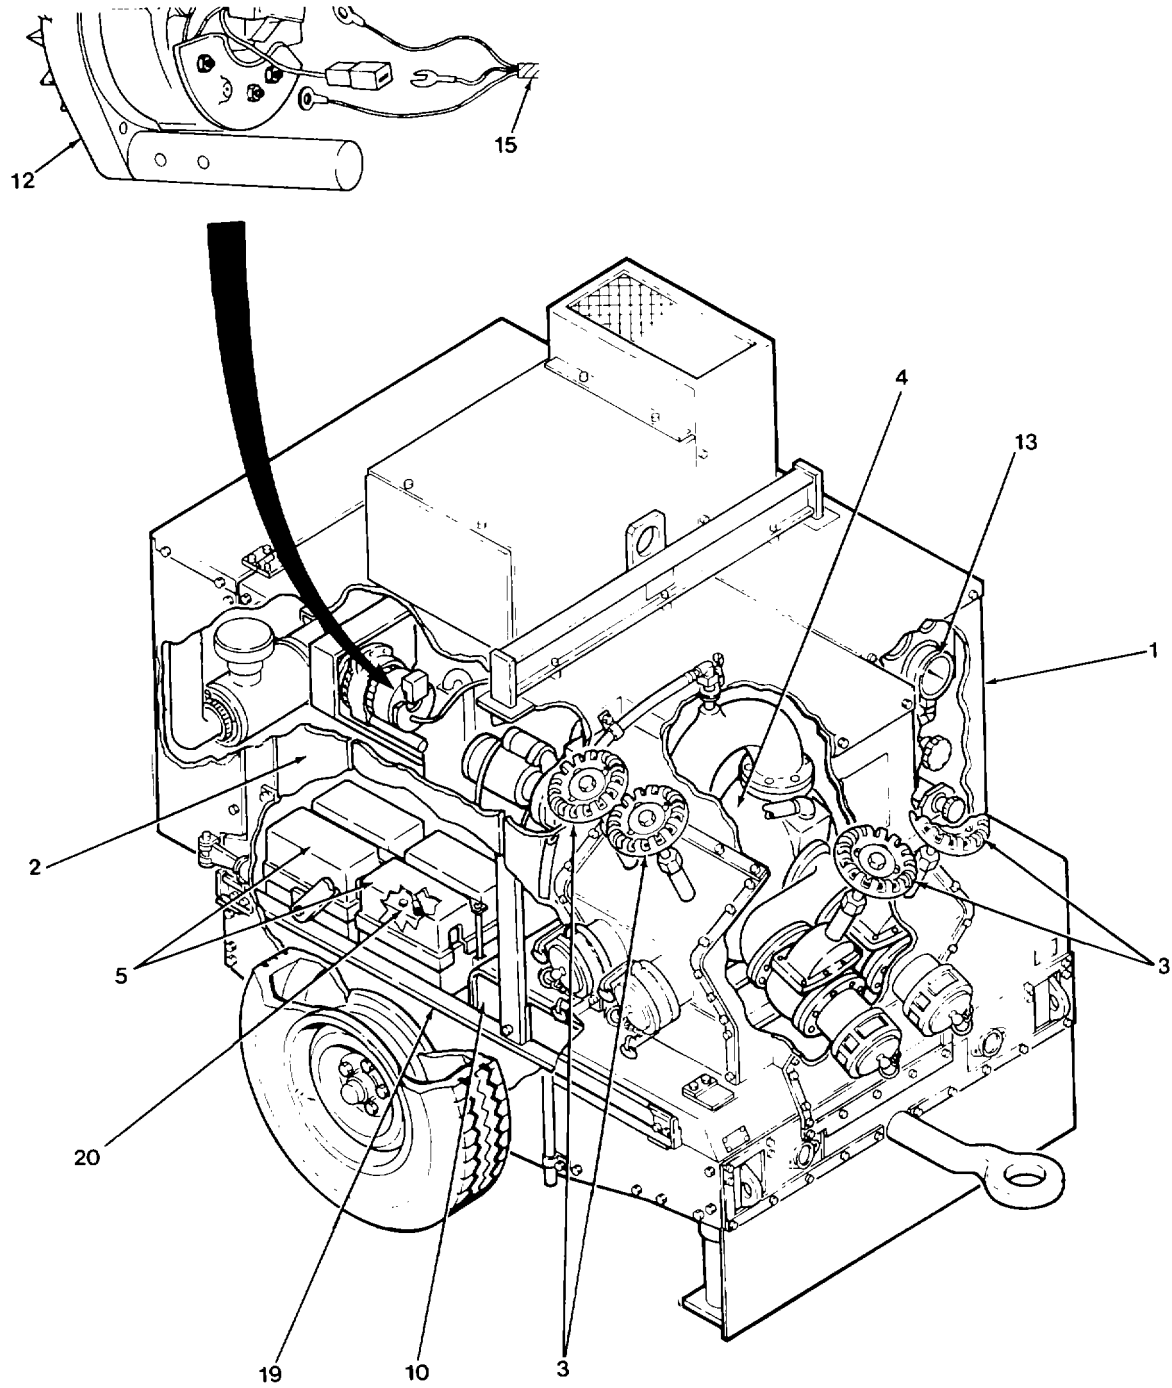

Figure 2-2. PMCS Locations (Right Side View)
(3) *Item to be Inspected.* This column lists the part or group of parts to be checked and serviced. These parts are identified in figures 2-2 and 2-3.
The pumping assembly PMCS procedures are listed in Table 2-1. When filling out the "Item Number" column on DA Form 2404, Equipment Inspection and Maintenance Worksheet, use the number taken from Item No. column in Table 2-1 to record results of the checks and services. Item number also refers to index numbers on figures 2-2 and 2-3.